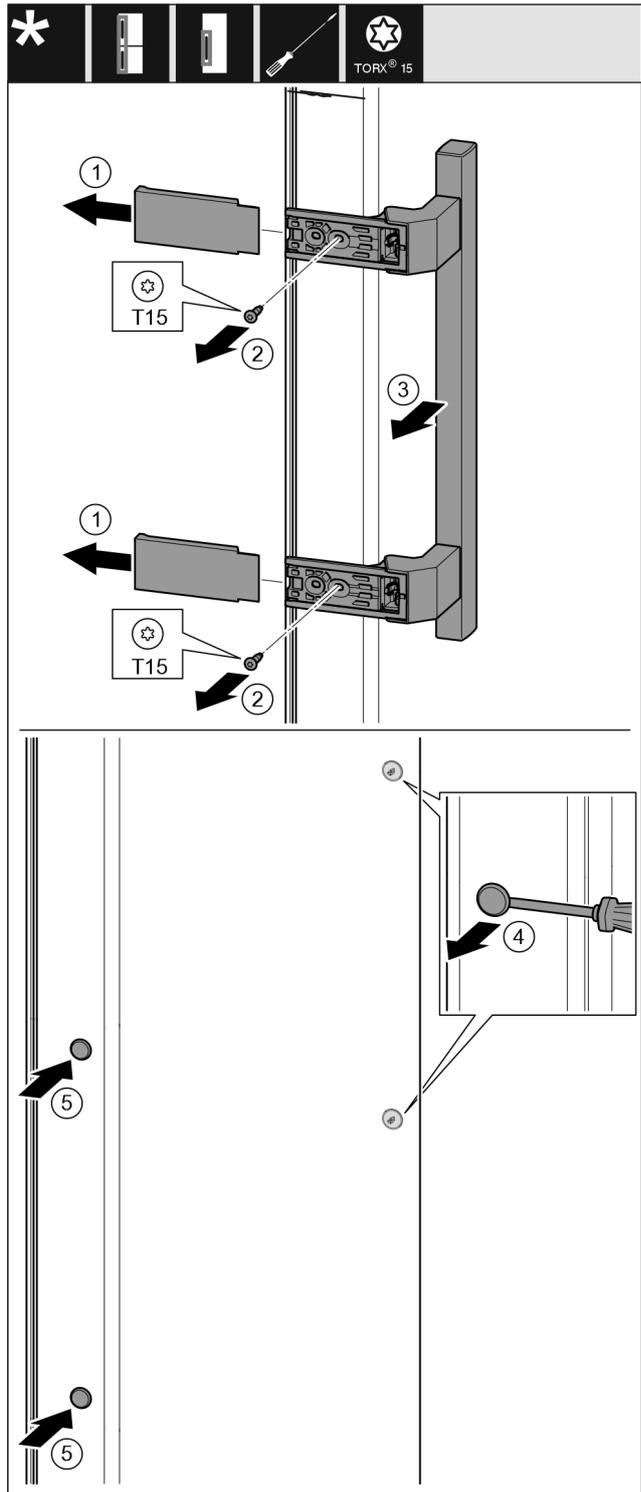

Fig. 11
- ▶ Pull off the cover. Fig. 11 (1)
- ▶ Unscrew the screws using a Torx 15 screwdriver. Fig. 11 (2)
- ▶ Remove the handle. Fig. 11 (3)
- ▶ Carefully lift the side plug with a slotted screwdriver and pull it out. Fig. 11 (4)
- ▶ Reinsert the plug on the other side. Fig. 11 (5)